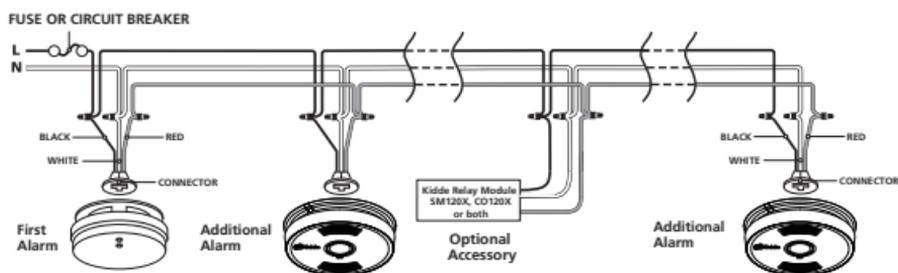

FIGURE 2 Interconnect Wiring Diagram
- Figure 2 illustrates interconnection wiring. Improper connection will result in damage to the alarm, failure to operate, or a shock hazard.